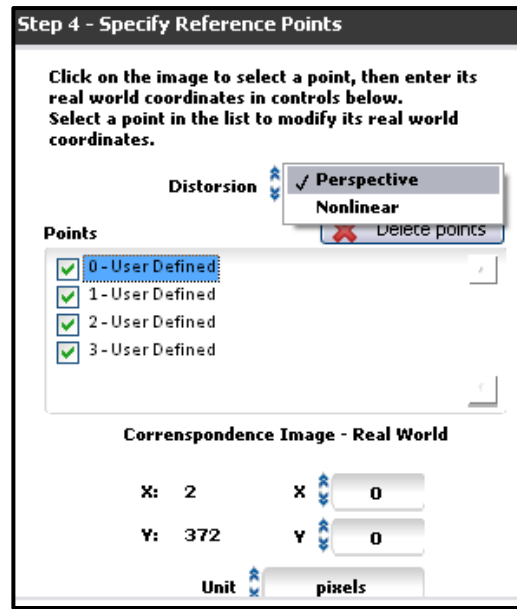

Figure 86. Select distortion type and enter real-world coordinates of defined points.
2. Select the distortion type in question, define the points and enter the corrected values. [Figure 86]